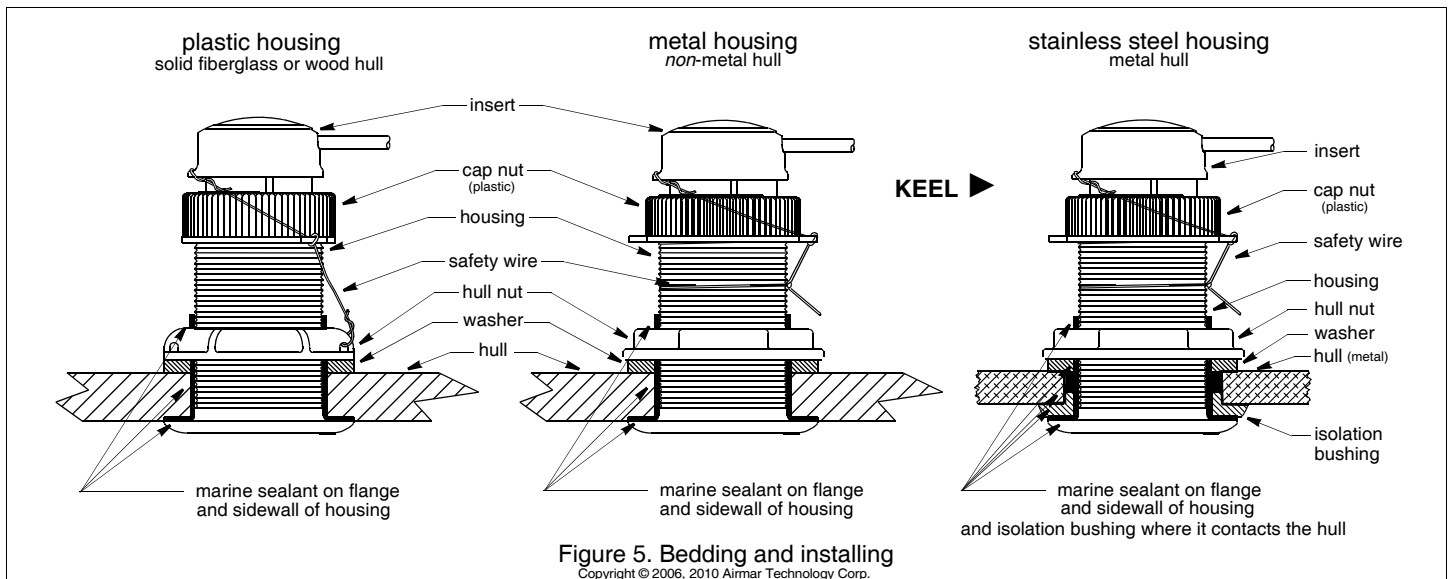

Figure 5. Bedding and installing
Apply a 2mm (1/16") thick layer of marine sealant around the flange of the housing that will contact the hull and up the sidewall of the housing (see Figure 5). The sealant must extend 6mm (1/4") higher than the combined thickness of the hull, the washer, and the hull nut. This will ensure there is sealant in the threads to seal the hull and to hold the hull nut securely in place.
2. From inside the hull, slide the washer onto the housing (see Figure 5).
8. Attach the safety wire to prevent the insert from backing out in the unlikely event that the cap nut fails or is screwed on incorrectly (see Figure 5).
2. Remove the insert from the housing by removing the safety wire and unscrewing the cap nut (see Figure 5). This will jack out the insert. Grasp the insert and remove it with a slow pulling motion. Slide the blanking plug into the housing. Be sure the blanking plug is fully inserted. Screw the cap nut several turns until the threads are engaged. Continue to tighten the cap nut completely. **Hand tighten only.** Do not over tighten.